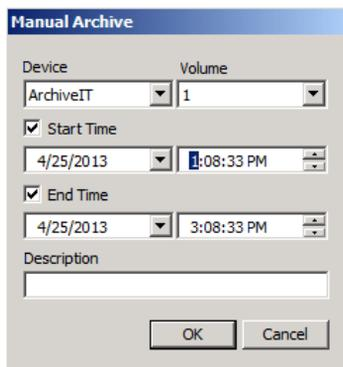

Figure 248. Manual Archive Dialog
- Manual Archive dialog appears as shown in Figure 248.